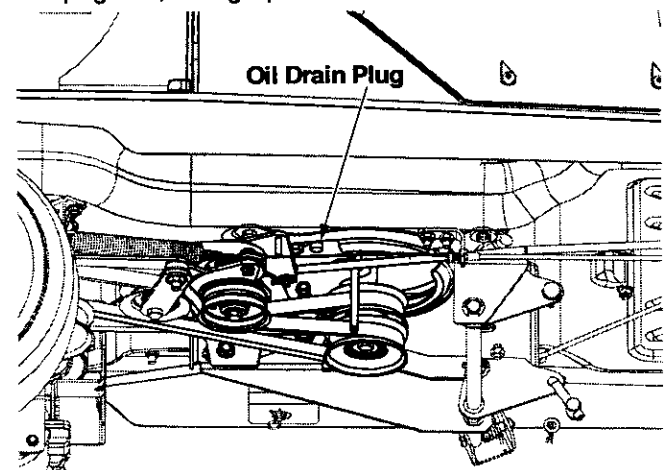

Figure 12
4. Making sure that all three belts are out of the way, carefully unscrew the oil drain plug and collect spent oil in a container. Hold the container close to the drain plug to avoid spillage. See Figure 12.